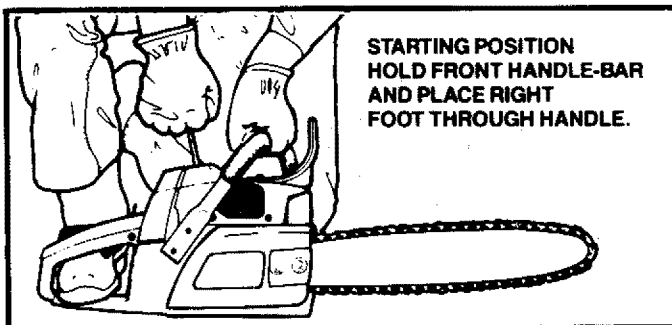

Figure 14
- a. Set the saw on flat ground making certain the saw chain is free to turn without contacting any object. Figure 14.
- e. Hold front handlebar with left hand & place right foot through rear handle to stabilize saw. Figure 14.